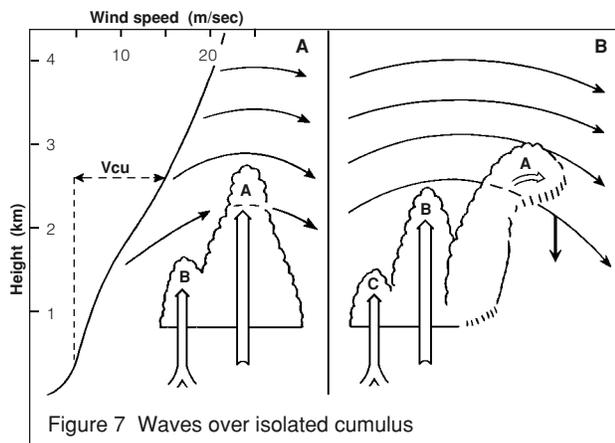

Figure 7 Waves over isolated cumulus
are more likely when the shear is stronger. Figure 7(a) shows the wind profile on the left and the flow over the cloud on the right. V_{cu} indicates the difference in speed between cloud and the wind over it. Figure 7(b) shows how the original cloud (A) collapses and topples while younger clouds (B) and (C) grow on the up-shear side.